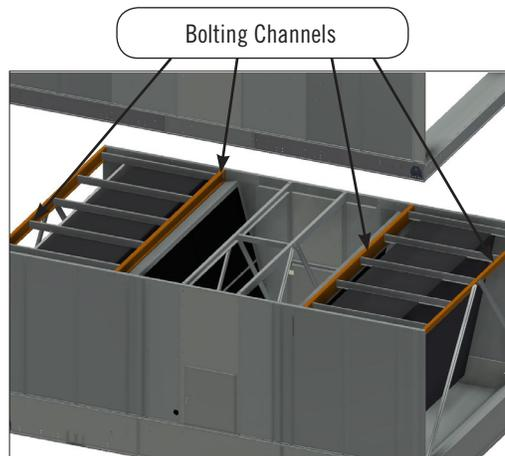

Figure 6. Bolting Channels
- Bolt the top sections onto the bottom sections as shown in **Figure 4** on **page 5** using the bolting channels in **Figure 6**.